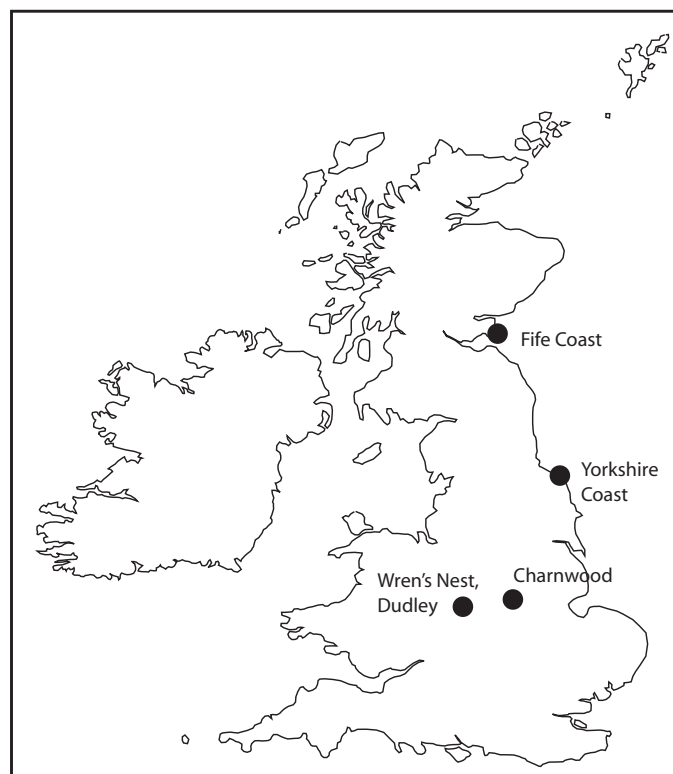

Fig. 2. Map of the UK showing the location of moulding and cast replication case studies.
3. Four case studies from the UK (Fig. 2) are described below